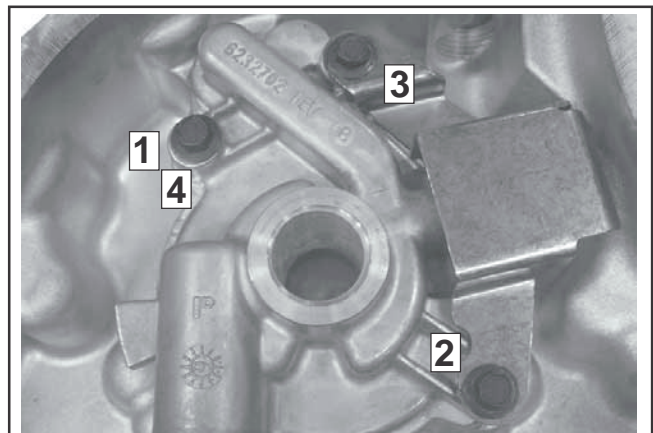

Figure 9-18. Oil Pump Screws Torque Sequence.
6. Install the oil pump housing with the pickup tube, over the oil pump boss and gears. Position the relief valve baffle on screws 2 and 3. See Figure 9-18. Align the three screw hole locations.
7. Install the clamp for the pickup tube and finger tighten the screw. Check the alignment of the parts and torque the oil pump housing screws as specified using the sequence shown in Figure 9-18.